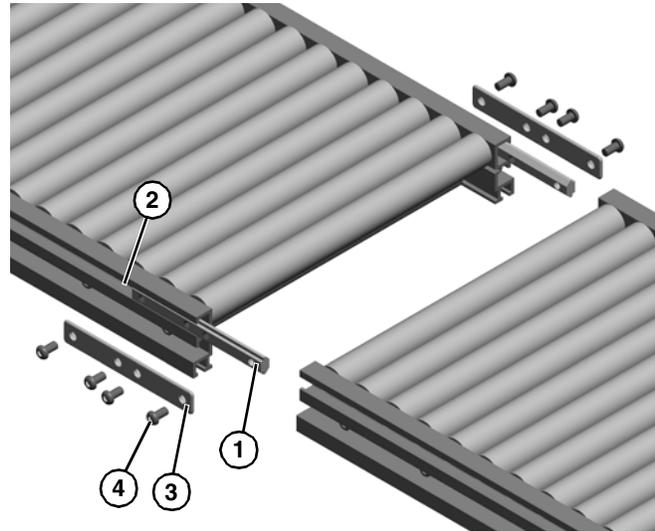

Figure 4
3. Insert t-bars (**Figure 4, item 1**) into conveyor t-slots (**Figure 4, item 2**) on each side of conveyor.
4. Attach clamp plate (**Figure 4, item 3**) with four screws (**Figure 4, item 4**) on each side of conveyor.